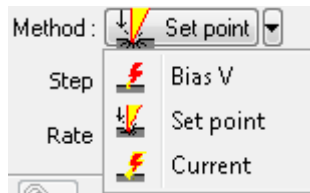

Fig. 12-26. Selecting the lithography method
5. For Force lithography, select **SetPoint** in the **Method** drop-down list (Fig. 12-26).